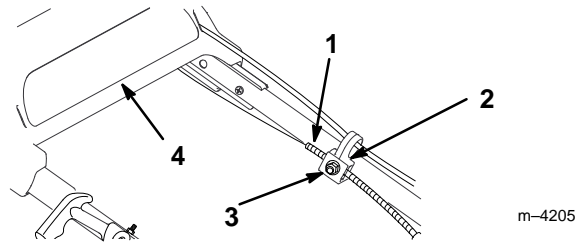

Figure 15
2. Loosen the cable support nut (Fig. 15).
4. With the upper handle pushed back as far as possible and while holding the drive bracket down, pull the cable jacket down (toward the mower) until all slack is removed from the cable (Fig. 15).
5. Tighten the nut on the cable support (Fig. 15).